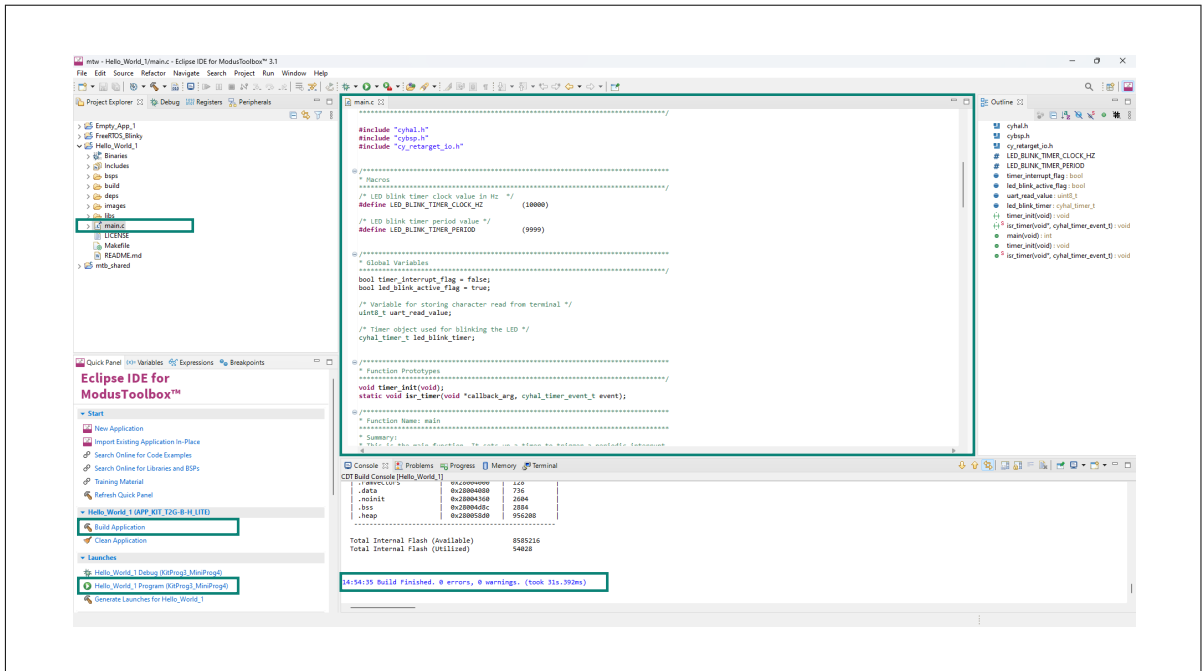

Figure 11 Building and then programming the LED Blinky code
6. Once the project is created successfully, go to the "Project Explorer" and expand the Hello_World project and see the *main.c* file (as shown in Figure 11)